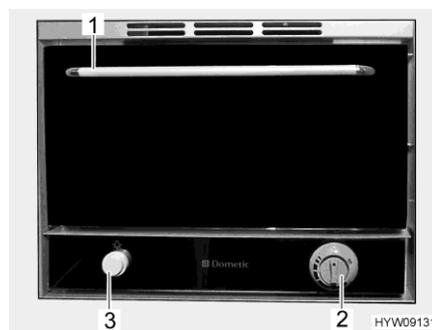

Fig. 90 Gas oven
- Press button for lighting (Fig. 90,3). The interior lighting is lit as long as the button is pressed.
- Completely open the oven door by the handle (Fig. 90,1).
- Press and hold control knob (Fig. 90,2) and turn it to in an anticlockwise direction to the required setting. Keep control knob (Fig. 90,2) pressed for a further 5-10 seconds. Ignition will take place automatically.
- Release control knob (Fig. 90,2).
- Press and hold control knob (Fig. 90,2) and turn it in a clockwise direction. Keep control knob (Fig. 90,2) pressed for a further 5-10 seconds. Ignition will take place automatically.
- Turn the control knob (Fig. 90,2) to "O". The flame fades.